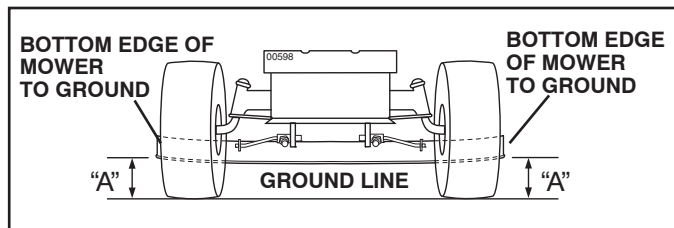

Fig. 32
**SIDE-TO-SIDE ADJUSTMENT** (See Figs. 32 & 33)